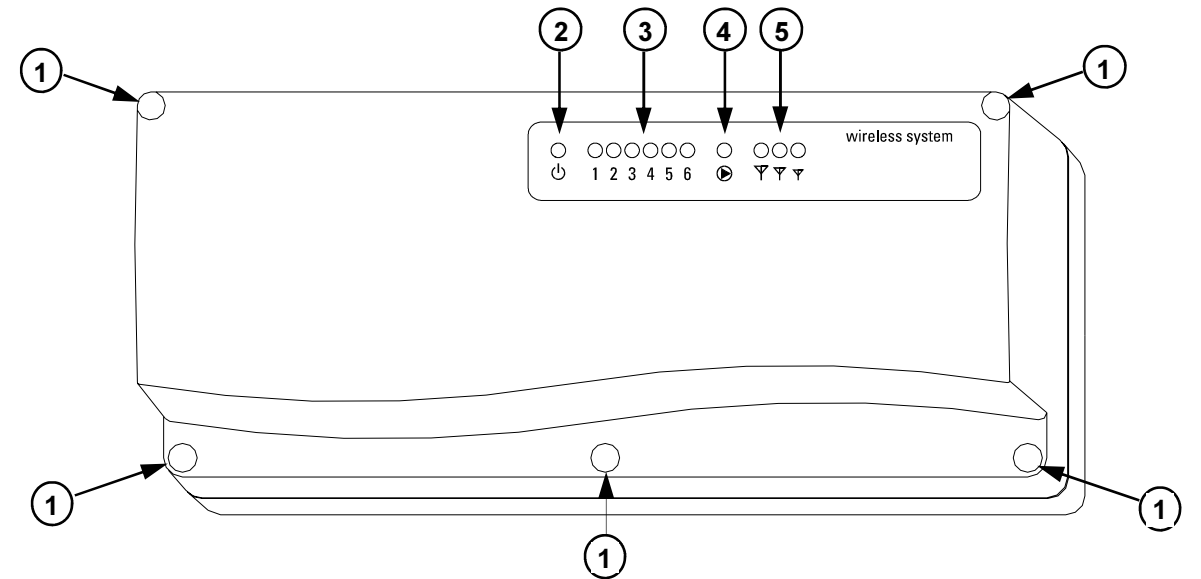

Fig. 1: External aspect
On the front panel of the module, visible in Fig. 1, eleven indicators are found:
To open the case, unscrew the five screws (1) Fig. 1: after this the panel is easily removable.